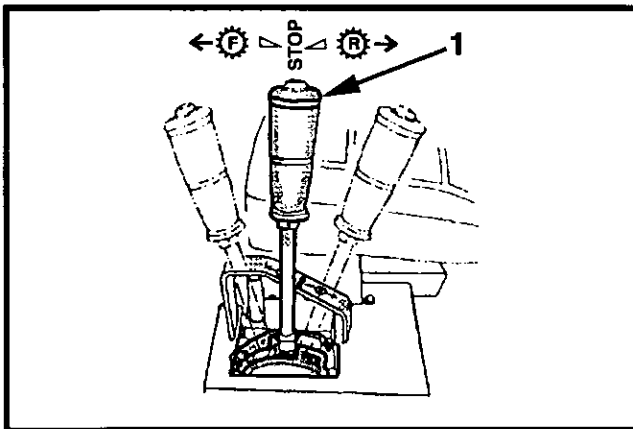
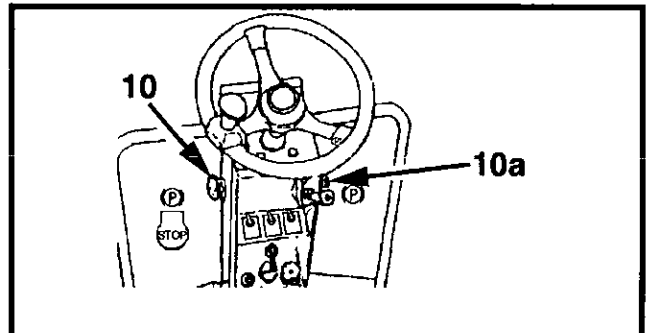

Figure 4-11 Propulsion Control Lever STOP Position
Figure 4-14 Emergency Stop/Parking Brake
12. Return propulsion control lever to **STOP** position (1, Figure 4-11).
1. Position propulsion control lever (1, Figure 4-11) to the **STOP** position.
4. If applied, reset the RED emergency stop switch marked  (10, Figure 4-14), by pushing downward on the red knob and twisting clockwise until it releases upward.
8. Release parking brake control* (10, Figure 4-14). Observe area around machine for personnel/obstructions. Move propulsion control lever (1, Figure 4-11) in reverse direction  to check that the back-up alarm is operational. Return control to STOP position. If alarm is not operational, contact appropriate personnel.
* Later units are fitted with a BLACK Parking Brake Switch (10a, Figure 4-14) which should be used to control parking brake when engine is running. (On these units the emergency stop will shut down the engine.)